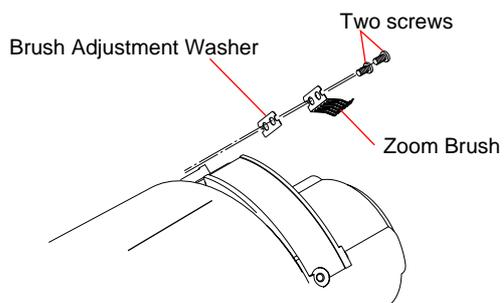

Fig. 4-7-6
- 4) Fix the zoom brush with the two screws as shown in Fig. 4-7-6.